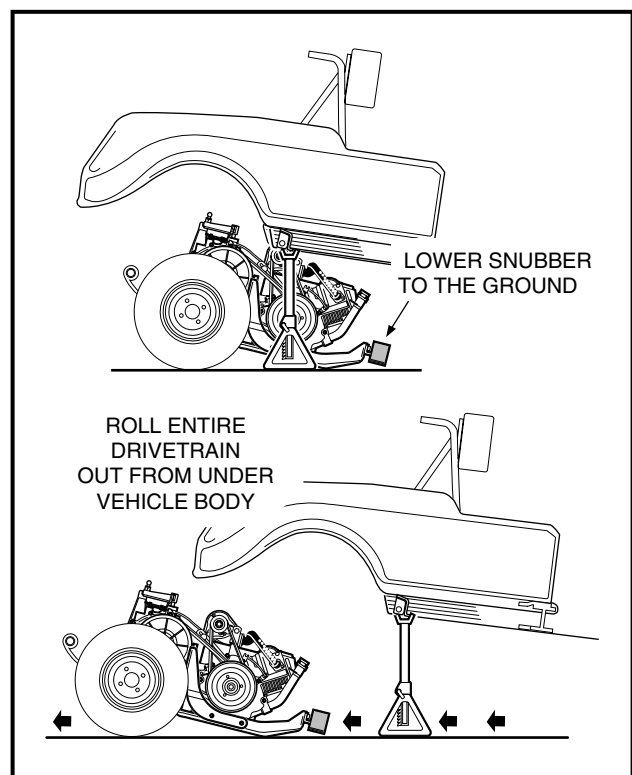

FIGURE 10-28
12. Grasp the ends of the leaf-springs at the rear of the vehicle and roll the powertrain out from under the vehicle (**Figure 10-28**).